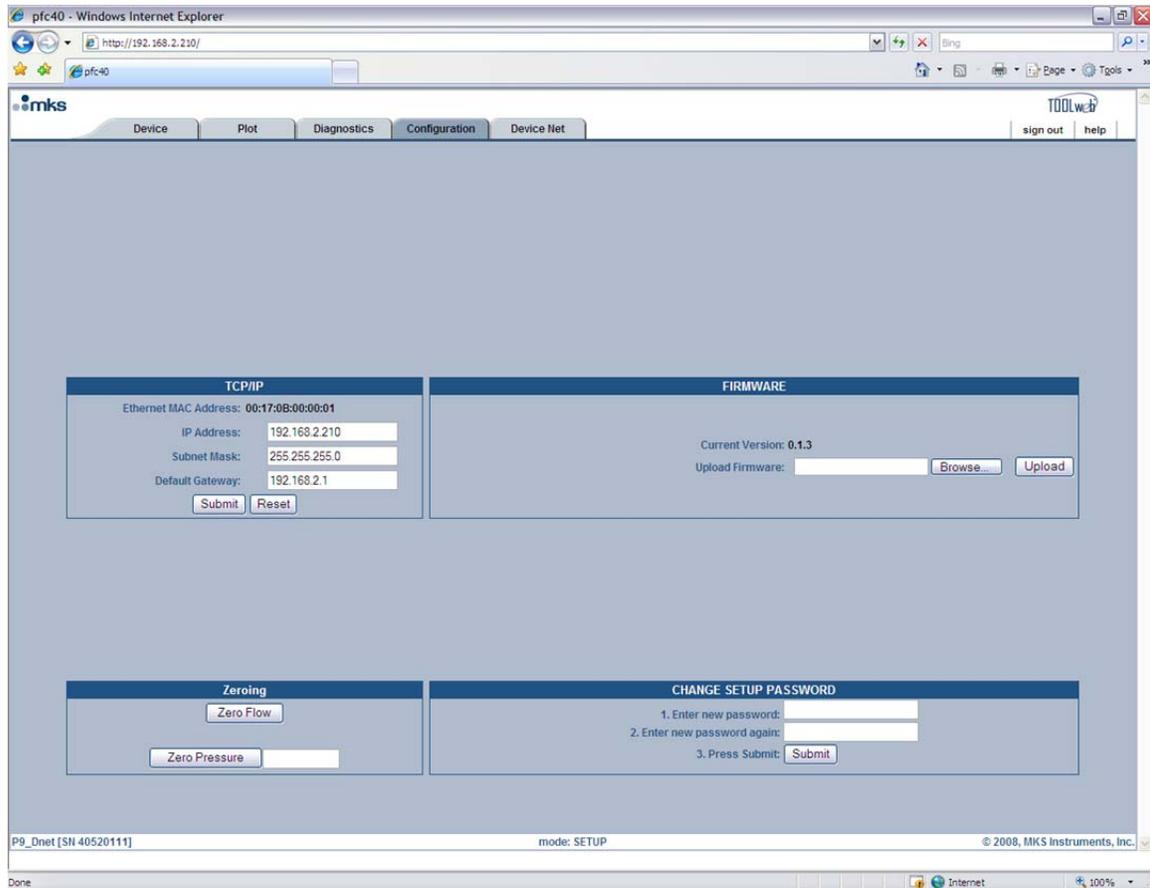

Figure 26: Embedded GUI, Configuration Page in Setup Mode
- Manually - Depress and hold the zero ("Select") button on the top of the device enclosure for three (3) seconds.
- Via the Ethernet UI – Connect to the device using the Ethernet UI and enter the Setup Mode. Go to the Configure Tab and zero using the "Zero Flow" button on the screen. See Figure 26.